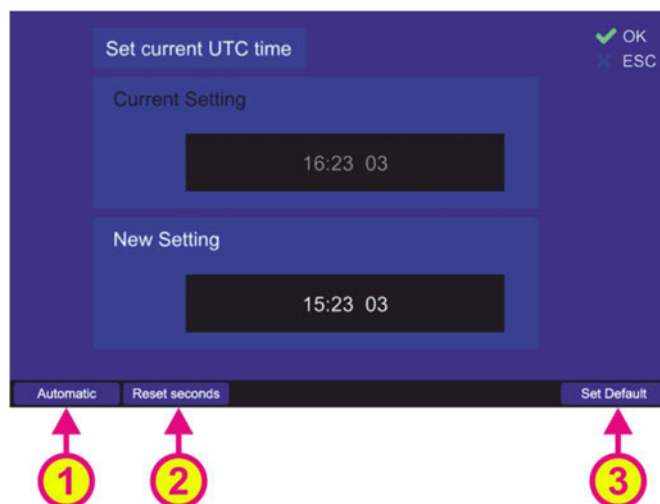

Figure 135. Changing the UTC time
Following dialog appears (s. Figure 135).
- Use the "Automatic" hotkey (s. Figure 135, position 1) to adopt the GPS time value (only if GPS data is available).
- By default the current seconds value is inherited to the new setting. To reset the seconds value to “00”, press the “Reset seconds” hotkey (s. Figure 135, position 2).
- Use the “Set Default” hotkey (s. Figure 135, position 3) to reset the value to the default value (internal time of the DCU real time clock).